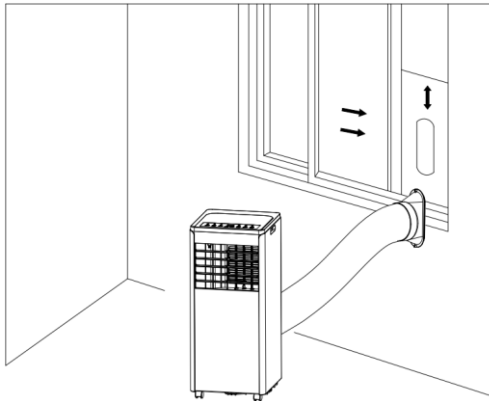
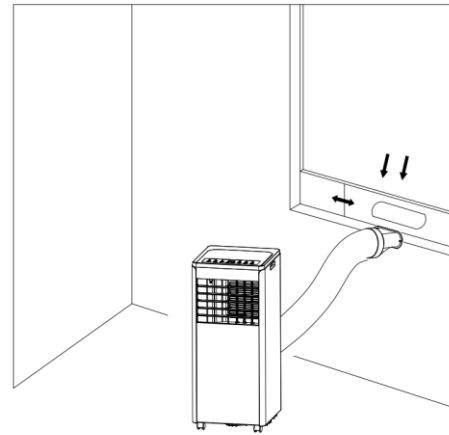

Figure 5
Figure 6
- 2) Elongate the exhaust pipe and snap the flat end of the exhaust pipe joints into the hole of the window sealing plate assembly (as shown in Fig.5 and Fig.6).